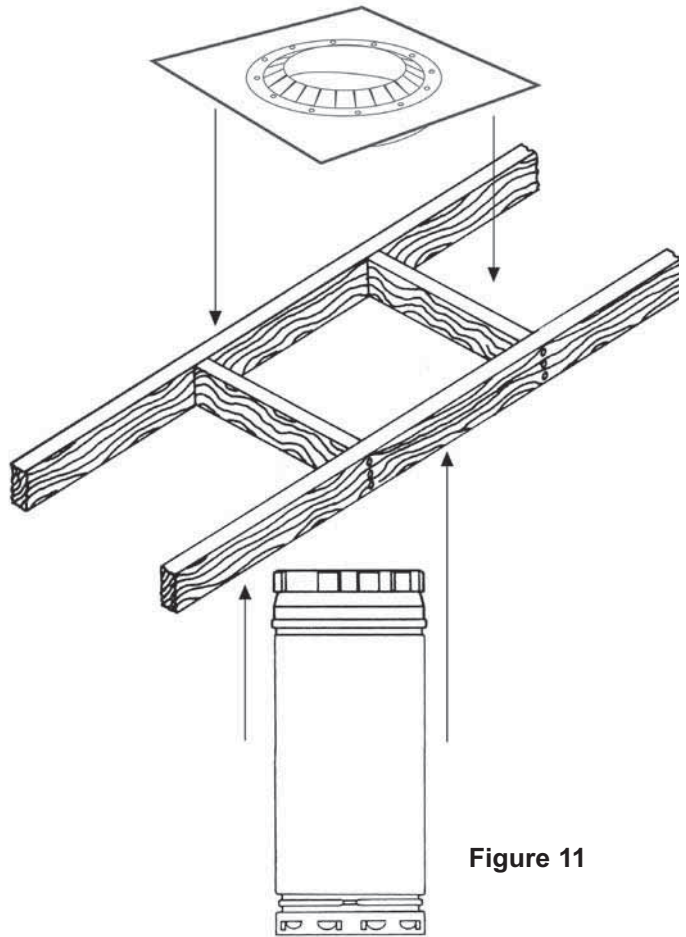

Figure 11
4. Pipe should be inserted from below. A maximum of 30 feet of pipe may be installed above the support before resupport is required. See **Figure 11**.